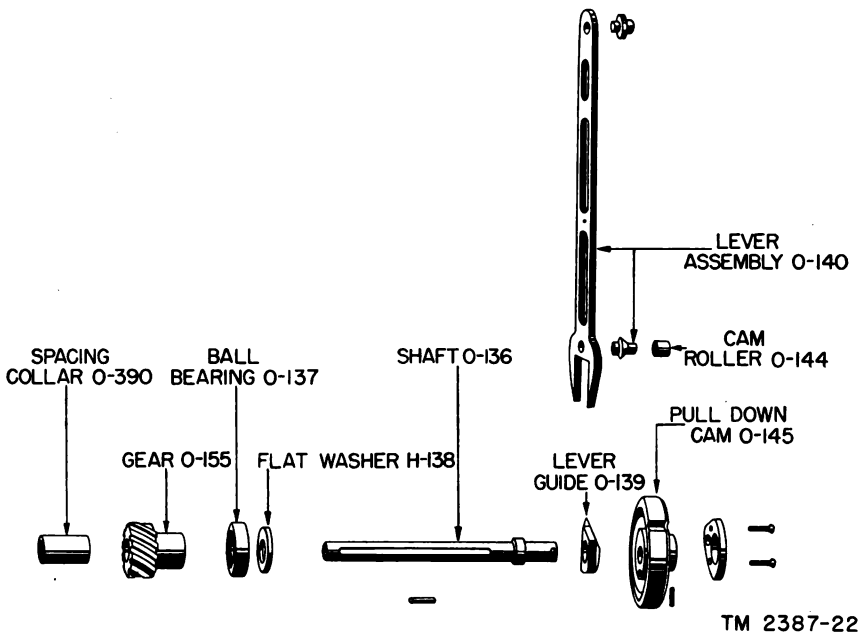

Figure 23. Intermittent camshaft assembly, exploded view.
- (1) Remove two screws H124-9 and guard 171.
- (2) Remove two shoulder screws H151 which hold the pull-down arm to the cam and oscillator lever assembly O-140.
- (3) Unhook spring O-166 from the lever assembly and remove shoulder screw H161 while holding the lever to the plate.
- (4) Press on the cam drive shaft from the coupling side of the drive plate and remove.
- (5) Remove three screws H371-5, which were exposed when the magazine drive gears were removed, and lift off bearing housing assembly H179. Ball bearing O-137 (fig. 23) is held to the housing with retainer plate O-393 (fig. 17) and screws H159-6.
- (6) Replace the parts in reverse order.